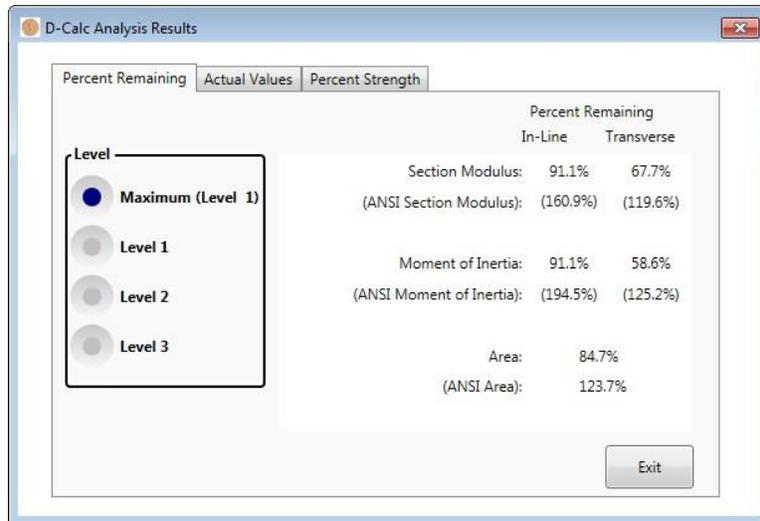

Figure 2-7. Results of Analysis on Example 1
6. Now, click the **Analyze** button and the results (Figure 2-7) indicate that the pole has 91% remaining section modulus in-line and 68% remaining transverse, based upon the actual pole size. The ANSI COMPARISON results show that the pole was oversized to begin with and retains 161% of its in-line section modulus and 120% transverse. This pole, which would be rejected by most evaluations, has a larger section modulus than required by ANSI minimums for an undamaged pole of the same class.